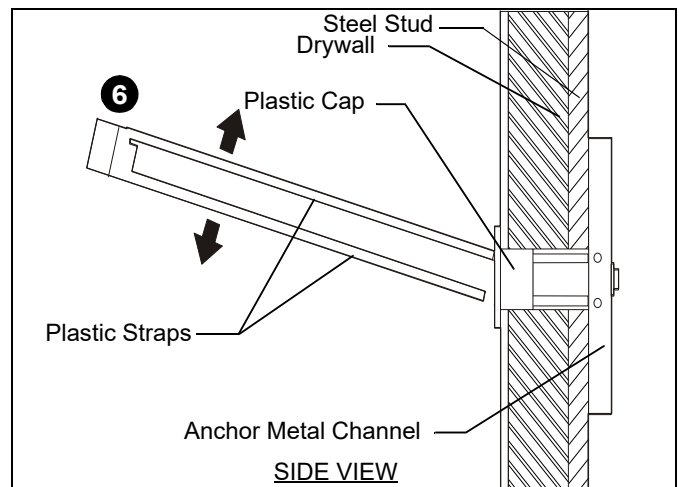

Figure 14
6. Snap off plastic straps on anchor at wall by pushing side to side, snapping off straps level with flange of plastic cap. (See Figure 14)